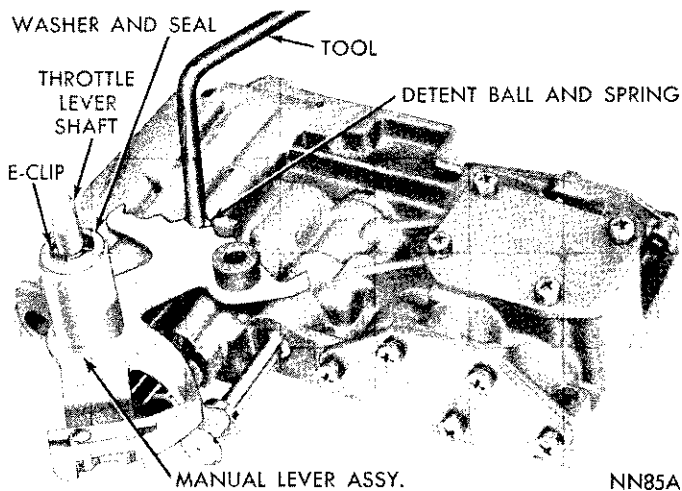

Fig. 47—Installing Detent Ball, Spring and Control Levers
(9) Install throttle lever and shaft on the valve body (Fig. 47). Insert detent spring and ball in its bore in the valve body. Depress ball and spring with Tool C-3765 or similar tool and slide manual lever over throttle shaft so that it engages manual valve and detent ball. Install seal, retaining washer and E-clip on the throttle shaft. (Fig. 44).